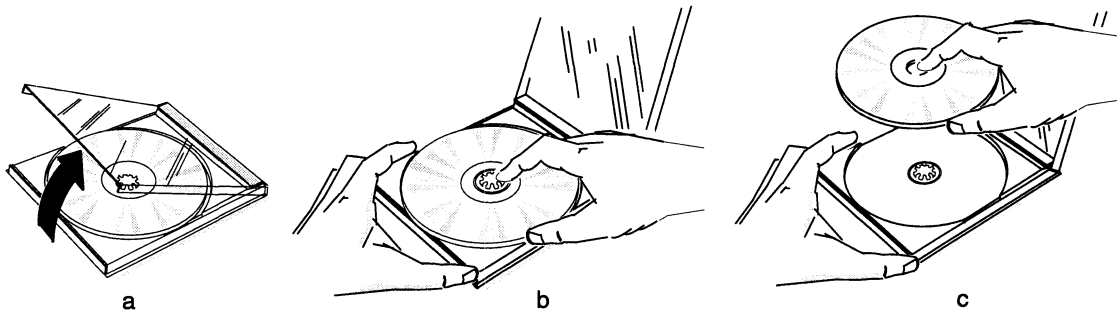

Figure 9 Removing the CD-ROM from its storage case case
1. Remove the CD-ROM from its storage case. To avoid bending the CD-ROM or touching the surfaces of the CD-ROM, we suggest that you follow these steps (Figure 9):